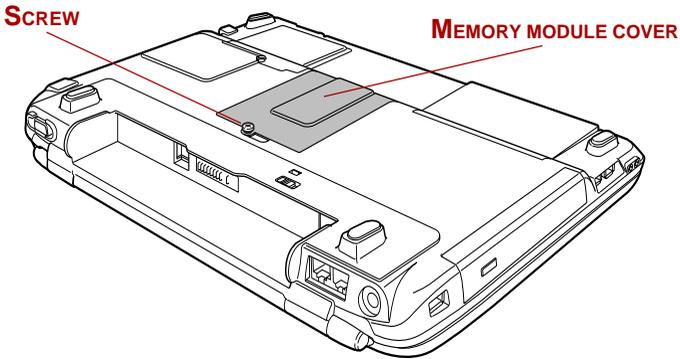

Figure 8-5 Removing the memory module cover
3. Loosen one screw securing the memory module cover and lift off the cover. Refer to figure 8-5.